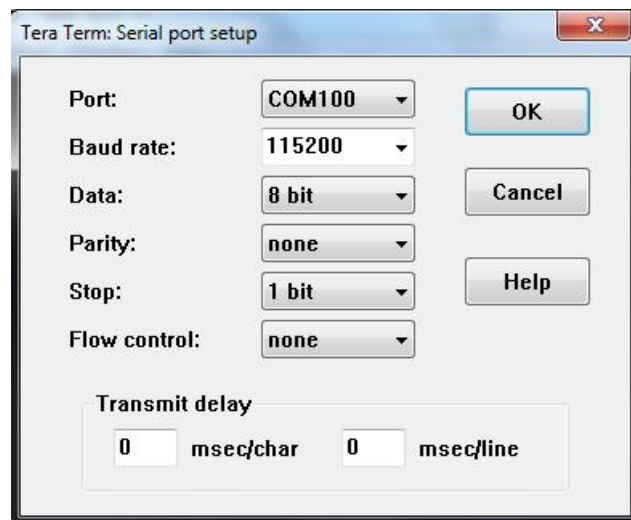

图 11. Serial Port Setup for CLI
The gateway can be controlled or monitored using the CLI over UART. To start CLI, open any terminal application on the laptop or PC that is connected to the gateway. 图 11 shows the serial port setup for CLI.
2. Setup the serial port with baud rate 115200 as shown in 图 11.